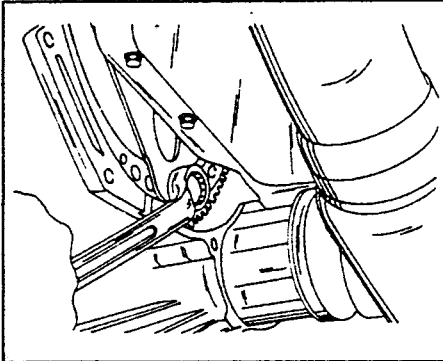

Fig. 8.5. — Removal of the torque converter from the drive plate.
Fig. 8.5 shows a view of the automatic transmission, with some of the parts that must be removed or disconnected. Sections "Drive Shafts" and "Front Suspension" refer in detail to the removal of the two drive shafts from the transmission and the lower suspension arms which must be disconnected from the steering knuckles in order to remove the drive shafts. Fig. 7.2 shows the parts to be disconnected and/or removed from underneath the vehicle on manual transmission models. On a vehicle with automatic transmission you will find that, with the exception of the torque converter drive plate, identical parts are used. Proceed as follows with the removal:
- Remove the centre engine carrier (15). Make sure that the engine/transmission assembly is still well supported by the hoist/hand crane or whatever has been used.
- Remove the metal cover (16) covering the bottom of the converter housing. This will expose the torque converter and the drive plate. Remove the three bolts securing the converter to the drive plate. Turn the crankshaft at the crankshaft pulley bolt with a socket until each bolt appears in the opening, as shown in Fig. 8.5 and remove the bolt. Push the torque converter away from the engine to prevent it from sticking to the engine.